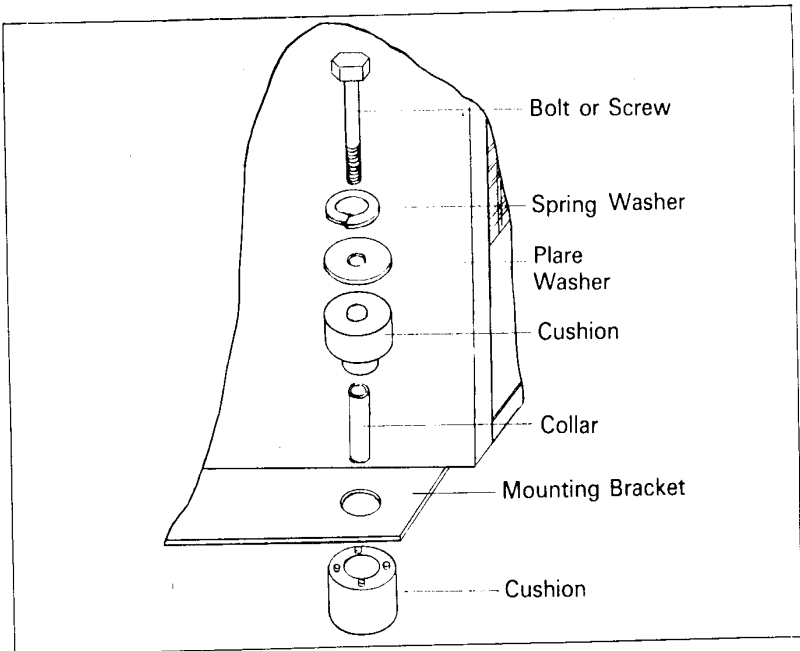

Fig. 6
2. The compressor/condenser case can be easily mounted to the floor mounting brackets and by use of supplied screws or bolts, cushions, collars, plane washers and spring lock washers. (Fig. 6) Place unit to insure accessibility and good circulation (see paragraph on location).
With the power supplies off, make the electrical connections, referring to (Fig. 6). Refer to **WIRE SIZE** table for recommended D.C. wire sizes.